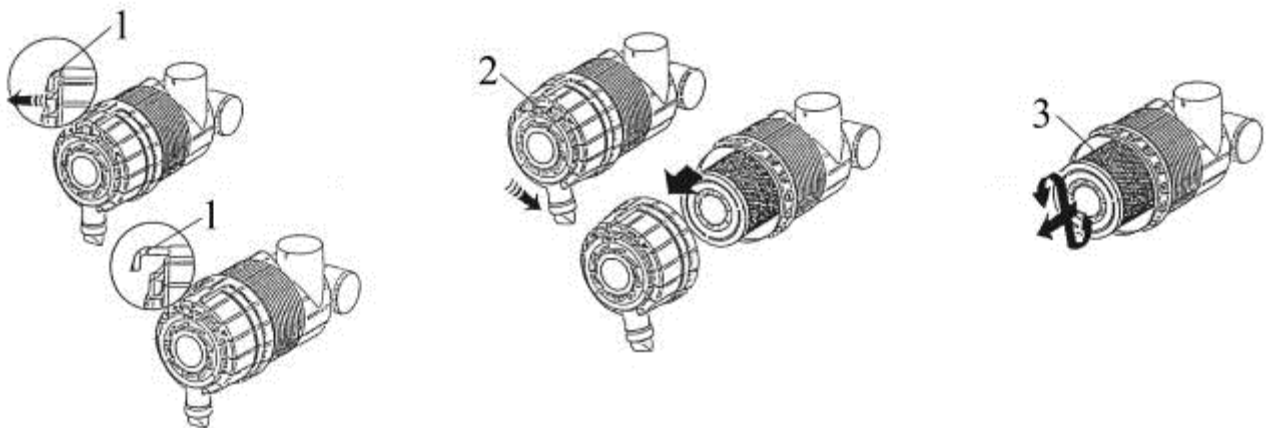

Figure 3.3 — Check of engine air cleaner
- pull the yellow latch 1 (Figure 3.3), turn the cover 2 counterclockwise by 12.5° and remove it;